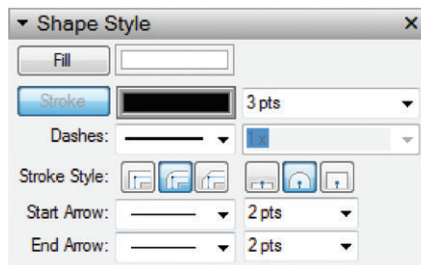

Figure 15.36 The Shape Style settings
7. Select the Site section line. In the Shape Style Inspector, set the stroke width to 3 (Figure 15.36).